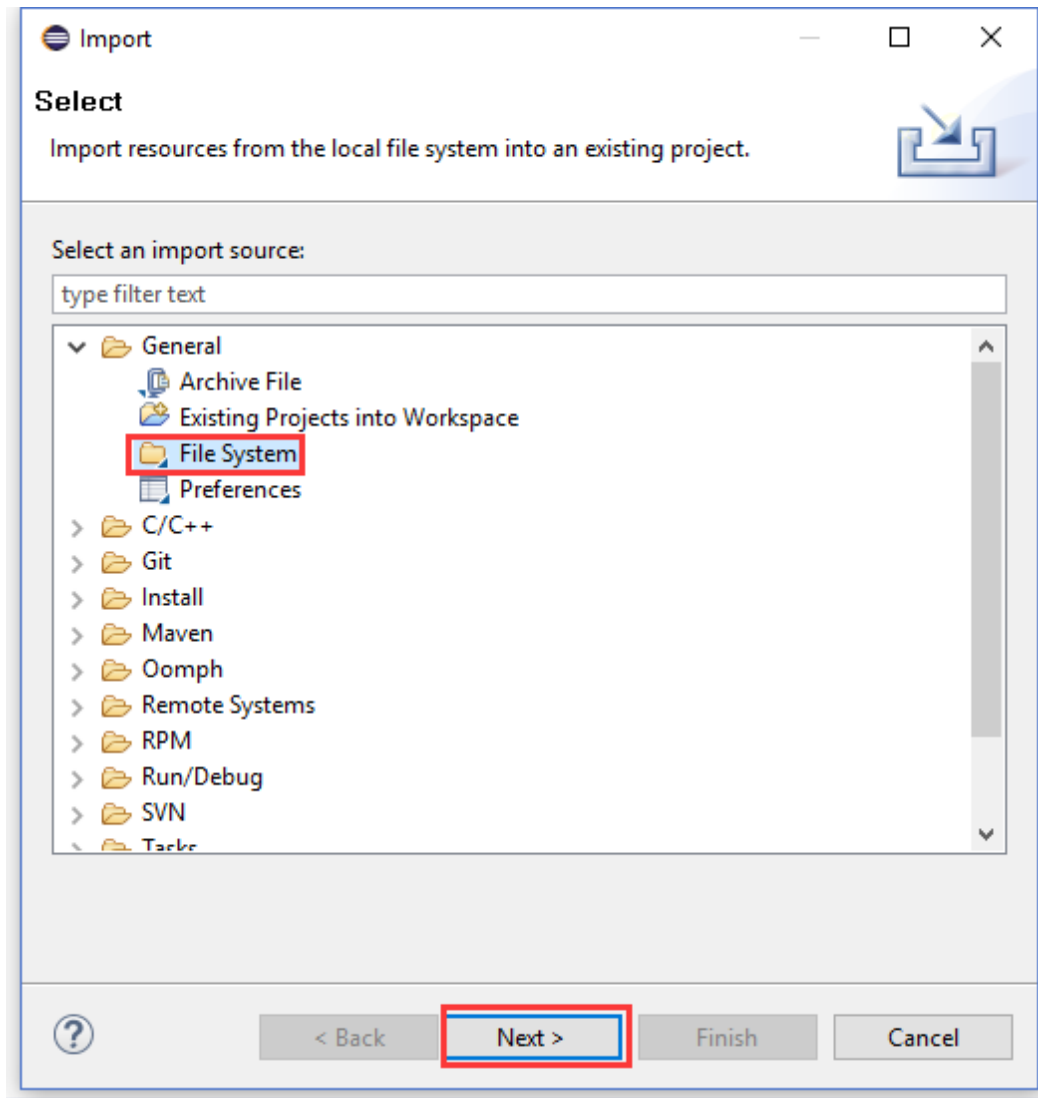

Figure 4: Importing a source file from File System.
6. In the pop-up window, select **General -> File System** and then Press Next. See Figure 4.